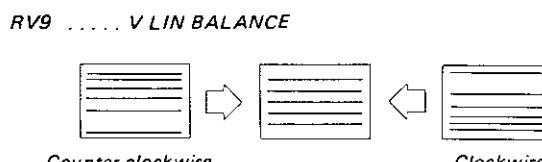

Fig. 28-2
3. Adjust the balance of V linearity with V.LB (RV9) on the DA board as shown in Fig. 28-2.